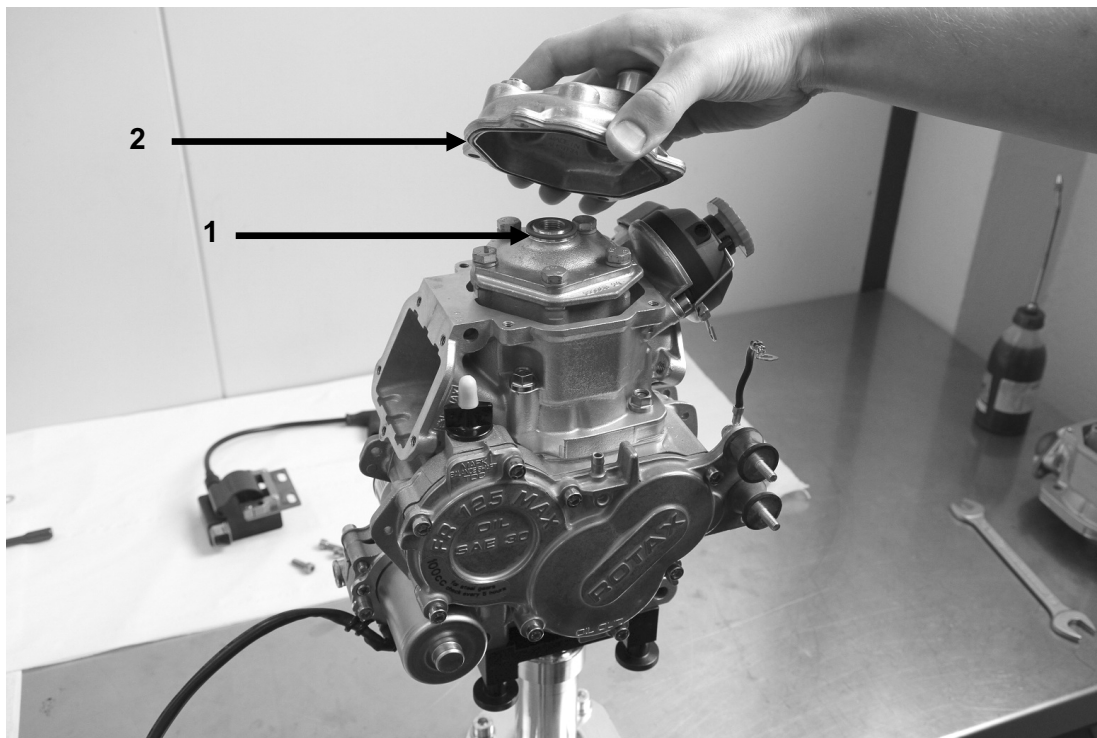

Fig. 37 (K00344)
- ➔ Place O-ring (Pos. 1 / Fig. 37) on the combustion chamber insert.
- ➔ Lubricate the O-ring (Pos. 2 / Fig. 37) lightly to ensure that it adheres better to the groove of the cylinder head cover, otherwise fix it with sealant (Silastic).
- ➔ Insert O-ring (Pos. 2 / Fig. 37) into the groove of the cylinder head cover.